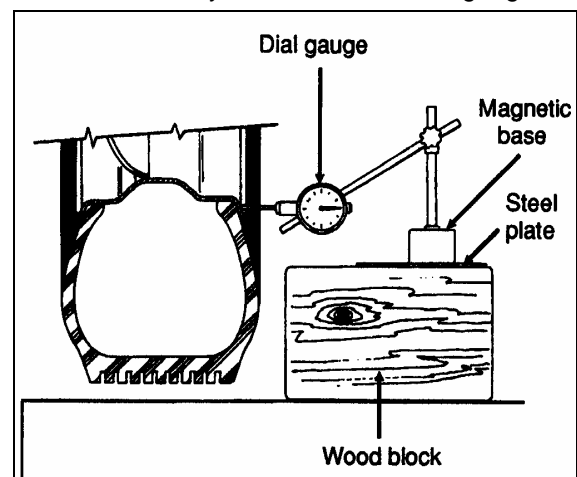

FIGURE 4: DIAL GAUGE INSTALLATION
2. Check wheel lateral runout. Install a dial gauge as shown in Figure 4, then rotate the wheel by hand one full turn. As the wheel turns, note any variation on the dial gauge;